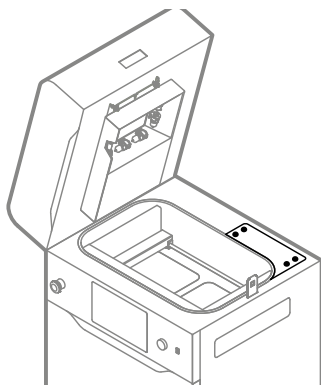

Fig. 12.62 Remove four screws from the access panel.
6. Using a 2 mm allen key remove the four screws securing the access panel on the top side of the printer (fig. 12.62).